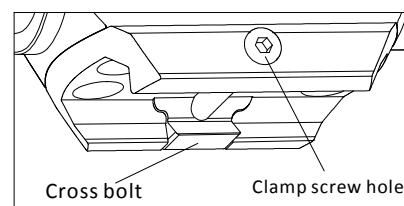

Fig 3
- Insert the appropriate Torx wrench into the clamp screw hole, rotate to loosen the cross bolt and then slide the sight into the firearm rail to the appropriate position. Finally tighten the clamp screw. (Fig3)